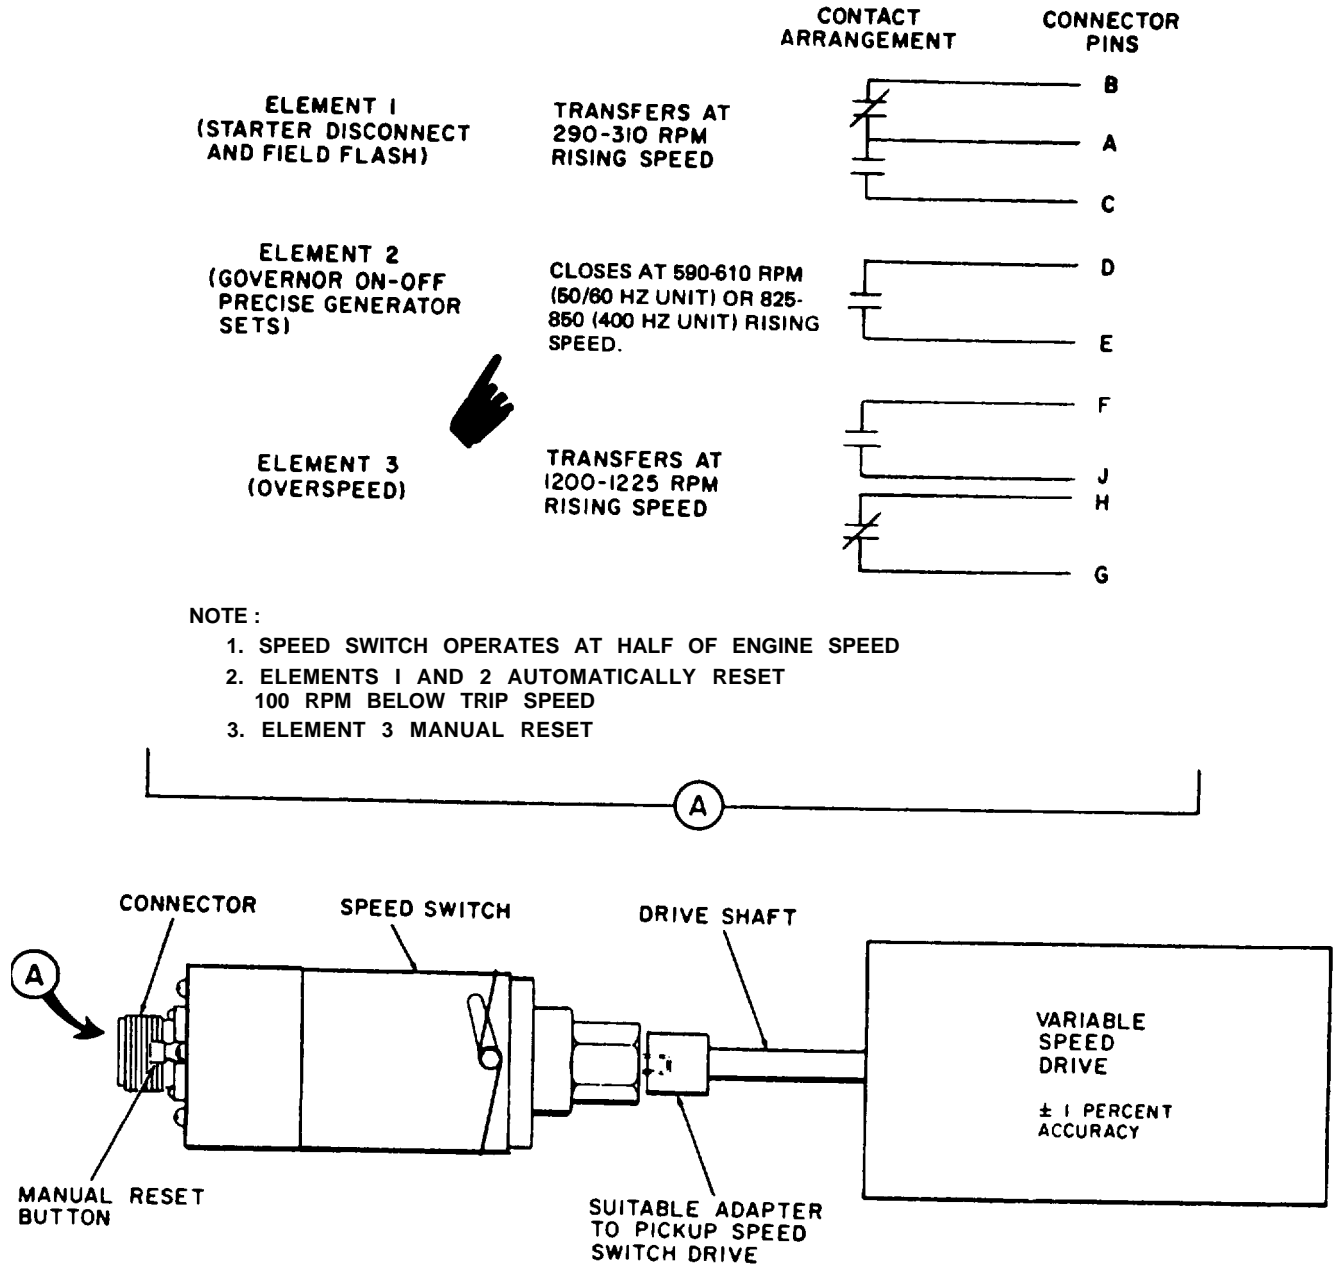

Figure 8-13. Overspend switch, test setup
5. Rotate cap and cover assembly (6) counterclockwise to maximum extended position.
6. Connect overspeed switch to test setup as shown in figure 8-13.